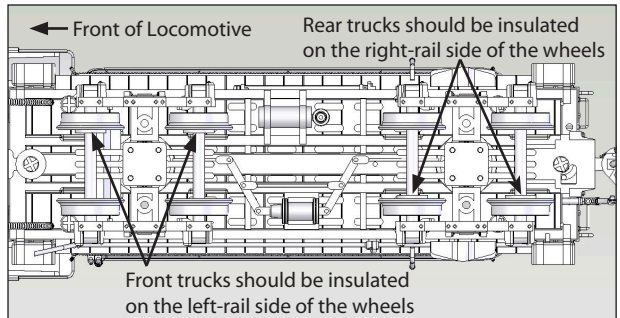

Figure 7 - Proper placement of insulated wheels
*It may be necessary to remove the tender trucks from the chassis to access these screws. Use a small Flathead screwdriver to pry the snap-fit trucks out of the chassis holes. **Note:** Each tender truck has insulated wheelsets, one truck for left rail pickup and one for right rail pickup. Always ensure that the trucks are reinstalled with the insulators on the correct side or electrical problems will ensue! (Please see Figure 7 on Page 4.)
Figure 7 for the proper placement of these insulated wheels and be sure to replace accordingly. Failure to adhere to this could cause serious electrical issues with your locomotive. If you have an unexpected loss of electrical contact after replacing wheelsets, this is where you should check first!